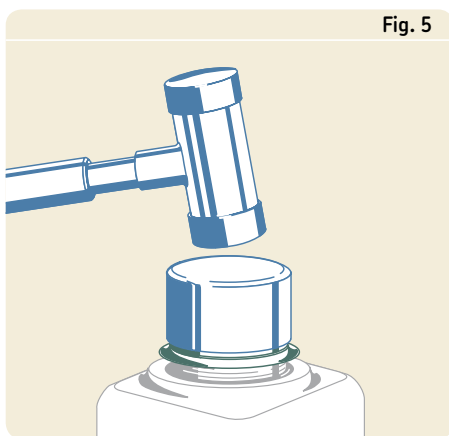

Fig. 5
- 8 Gently tap the centre of the installation tool until the sleeve covers the worn shaft surface (→ fig. 5). If the installation tool is too short, a length of pipe or tubing with a squared-off, burr-free end can be used. Be sure that the inside diameter of the pipe is the same as that of the installation tool. Use care not to scratch the precision ground sleeve's outside diameter.